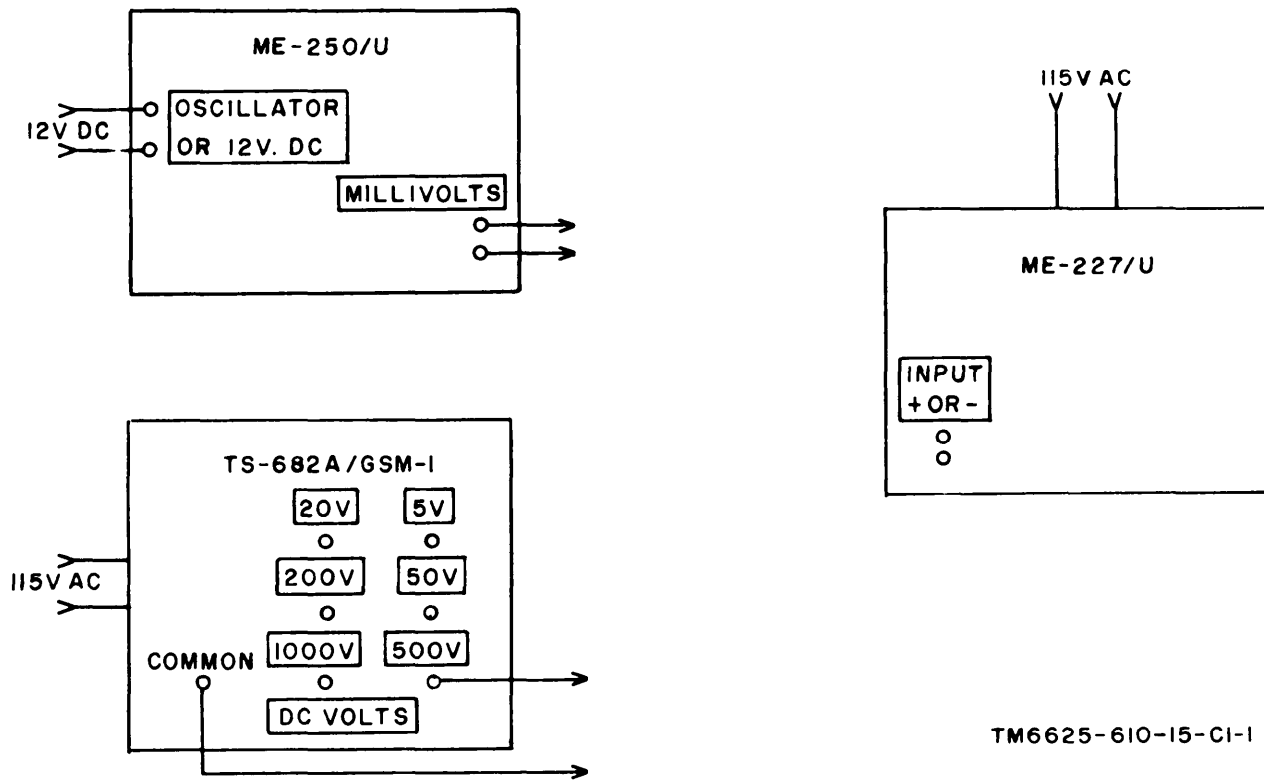

Figure 4. Scale accuracy and polarity deviation test setup.
- (1) VOLTS switch: 25 mV.
- (2) LOW mVs switch: USE LEFT SWITCH 25 mV UP.
- (3) UP-SCALE ZERO switch: OFF.
- (4) POLARITY PULSE switch: OFF.
b. Connect the TS-682A/U or the ME-250/U, as required, to the INPUT connector on the millivoltmeter as shown in figure 4.
b. Connect the ME-250/U to the millivoltmeter as shown in figure 4.